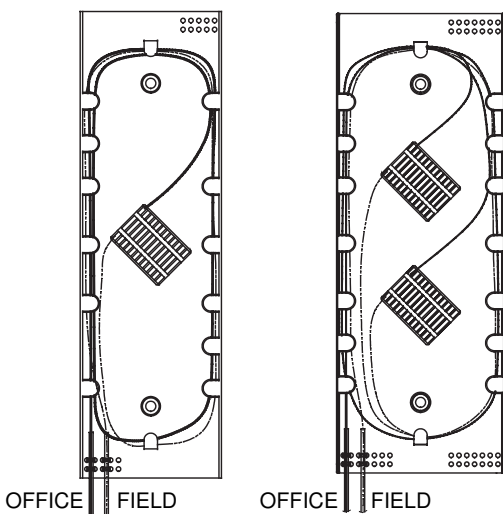

FIGURE 20 - ADOBE SERIES 12-FIBER AND 24-FIBER SPLICE TRAYS
- 12.01** There are two sizes of ADOBE Splice trays available for the COYOTE Splice Case, ADOBE Series. The narrow splice tray is configured with one splice block for 12 heat-shrink protected fusion splices. The wide splice tray has two splice blocks to accommodate up to 24 head-shrink protected fusion splices (Figure 20).